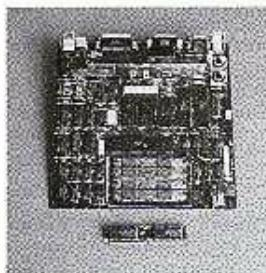

Figure 2-7
- c. Remove the Lo ROM chip (the chip on the right) from the main logic board and install it into the right connector on the SIMM card. See Figures 2-7. Make sure you install the ROM chip with its notch to the right (as indicated on the SIMM card).